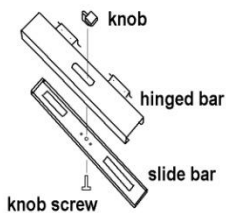

fig. 2
2. Insert the knob into the slot in the hinged bar. Attach the knob to the slide bar with the knob screw (fig. 2).